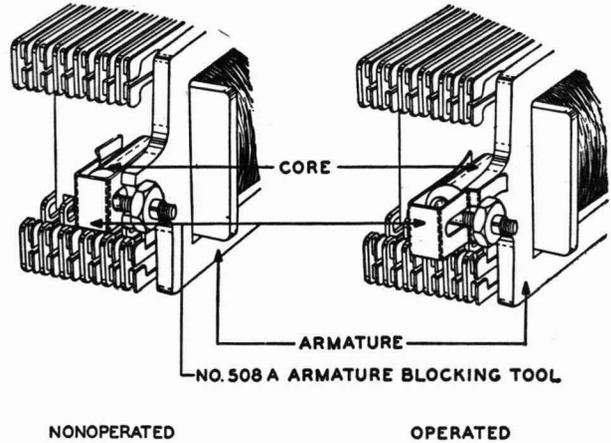

Fig. 4—Blocking U-, Y-, UA-, 271-, and 282-type Relays
3.04 **U-, Y-, UA-, 271- and 282-type Relays Not Equipped With Attachable Separators:** Fig. 4—Block relays nonoperated by inserting the No. 508A armature blocking tool on the front end of the core with the long legs of the tool between the core and the armature. Fully insert the tool, being careful not to push off the armature stop discs. Block relays operated by applying the offset legs of the blocking tool to the armature with the two long legs approximately centered on the core, as shown in Fig. 4.